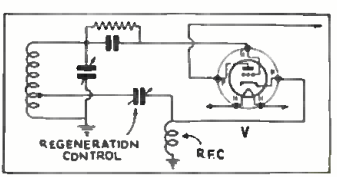

Fig. 6. Smooth regeneration.
**SMOOTH REGENERATION CONTROL.** By means of the circuit of Fig. 6, a very smooth and stable control of regeneration may be obtained. (I believe this idea to be an improvement over the one shown in this department of the December, 1935, issue, which I found to be noisy and critical.) The size of the condenser depends on the position of the tap on the tuning coil. I use a 140 mmf. condenser.